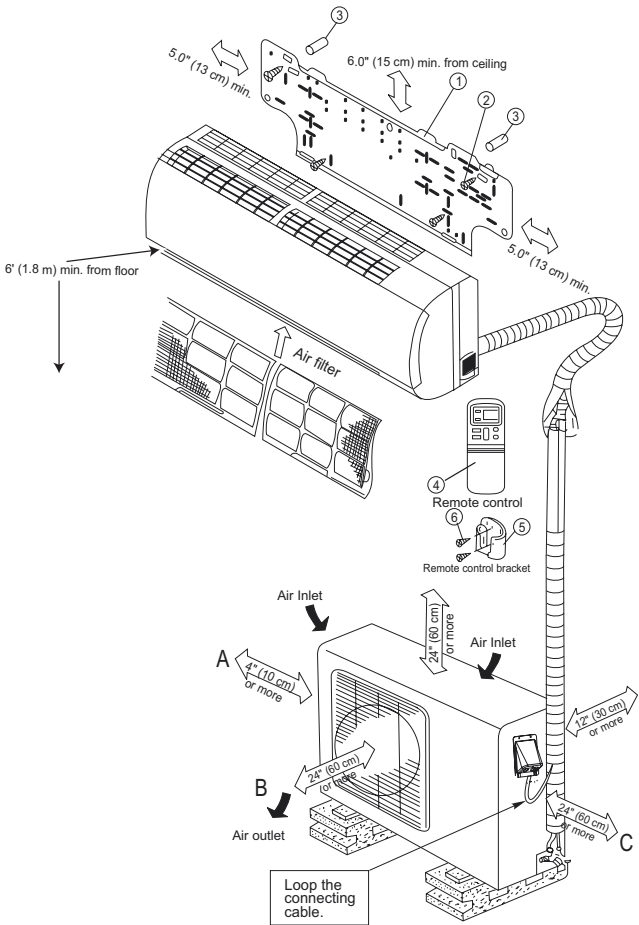

Fig. 1 – DFC4(A/H)3, DFF4(A/H)H 09-12
- Allow sufficient space for airflow and servicing unit. See Fig. 1 and 2 for minimum required distances between unit and walls or ceilings.
- A location which provides appropriate clearances as outlined in Fig. 1 and Fig. 2 (pg. 3).